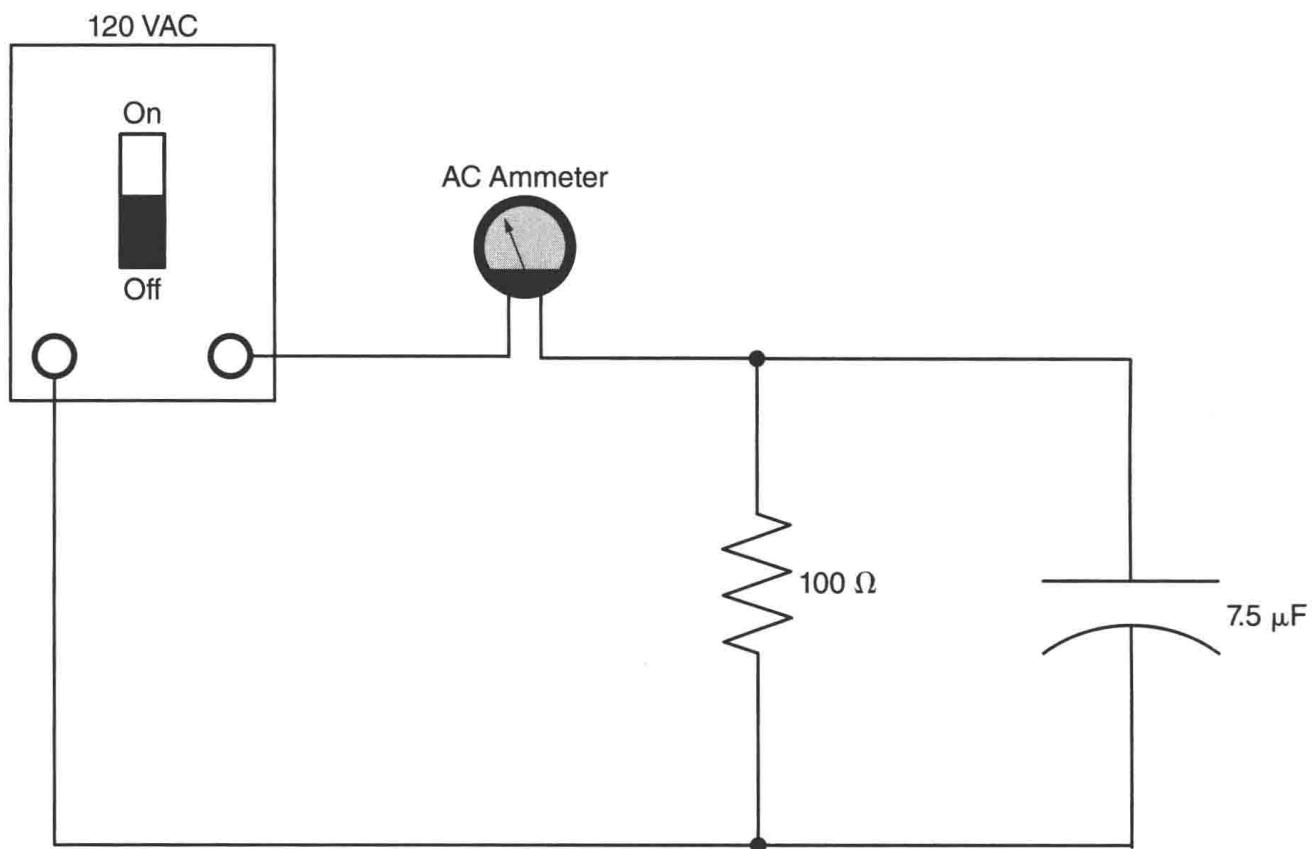

Figure 15-3 The AC ammeter measures the total circuit current.
1. Connect the circuit shown in Figure 15-3.